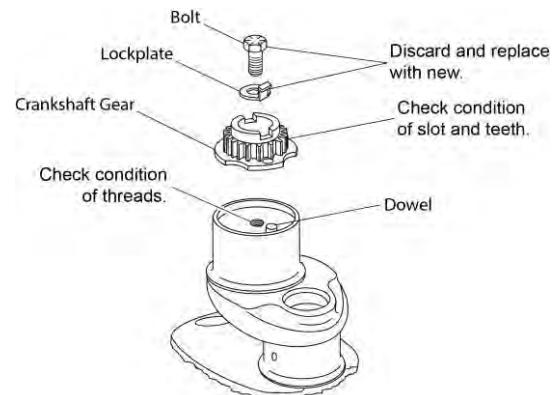

Figure 20
- (1) Bend the tabs of the crankshaft gear bolt lockplate down, flat against the crankshaft gear.
- (2) Remove the crankshaft gear bolt, lockplate, and crankshaft gear from the crankshaft (Figure 20). Discard the bolt and the lockplate.
NOTICE: Any time the crankshaft gear bolt (Figure 20) is removed, discard the bolt and replace it with a new bolt for the applicable crankshaft gear.
Do not remove the alignment dowel (Figure 20) from the end of the crankshaft unless it is damaged. Replace a damaged alignment dowel per the "Alignment Dowel Replacement" procedure in this chapter.